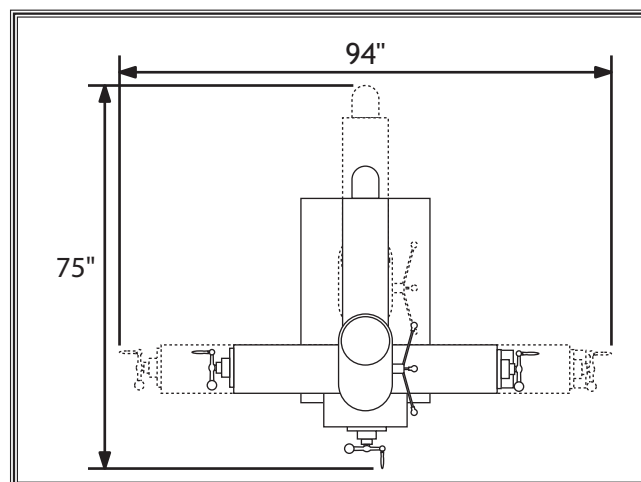

Figure 6. M1003/M1004 minimum working clearances.
- **Working Clearances:** Consider the movement of the table and head, existing and anticipated needs, and space for auxiliary stands, work tables or other machinery when establishing a location for your mill. See **Figures 6 & 7** for minimum working clearances. Provide a minimum of 36" of clearance around the machine.